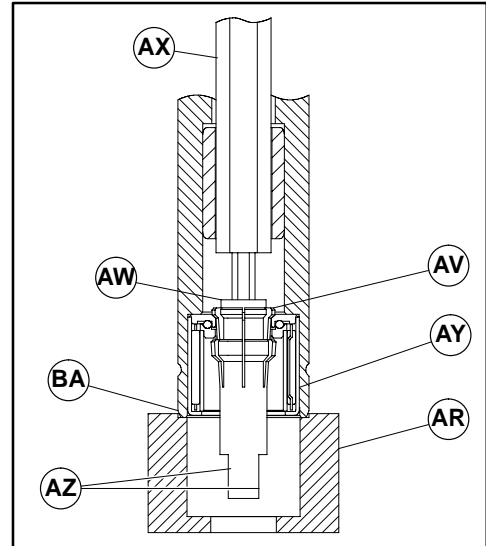

Figure 22
3. While holding hex key wrench extension tool (AX of Figure 22), rotate bearing removal tool using flats (AZ) to tighten bearing removal tool's tapered screw (AW) until flair (AV) of tool is completely spread open inside bearing (AY).
1. Support pulley (AP) in an upright position with “V” blocks or other means. Support bottom end of pulley using bearing anvil/sleeve removal tool (AR of Figure 22).